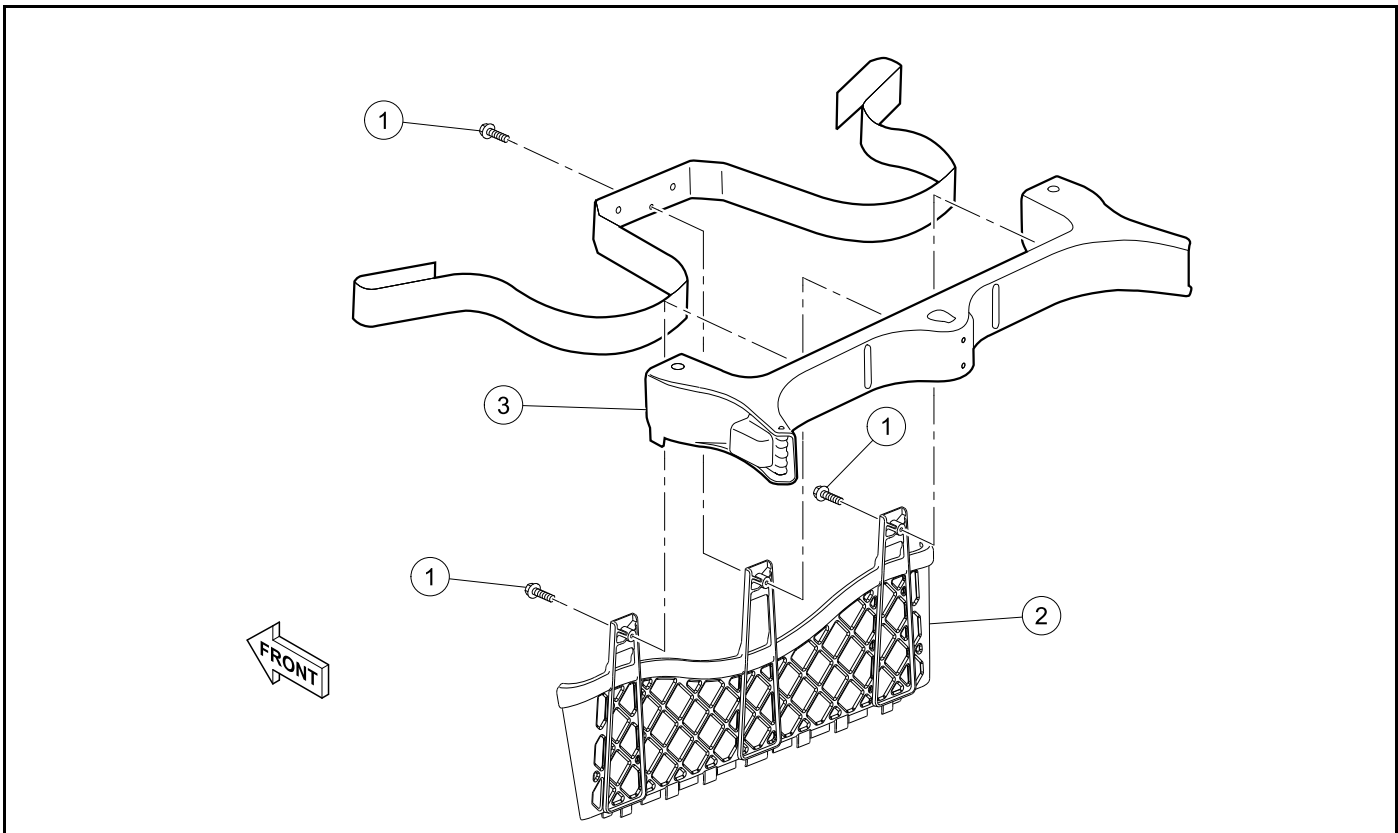

Figure 4-30 Sweater Basket
1. Remove the three screws (1) (**Figure 4-30**).
2. Remove the sweater basket (2) from the bag rack (3).
1. Install the sweater basket (2) onto the bag rack (3) (**Figure 4-30**).
2. Install the three screws (1). Tighten the screws to 31 lb·in (3.5 N·m).